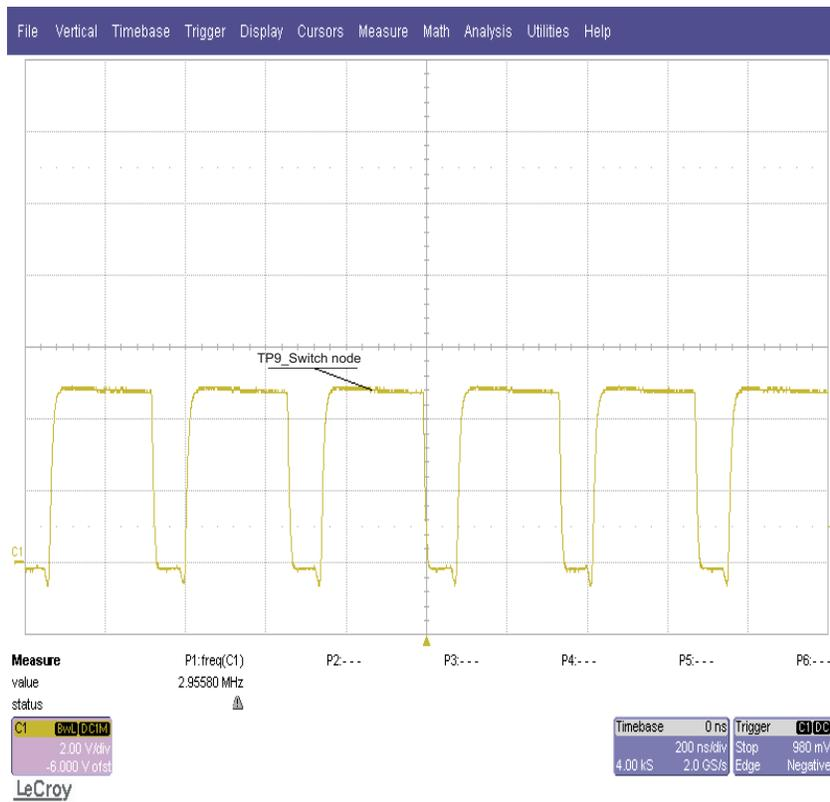

Figure 4. TP9 – Switch Node at 5-Vdc Input and 1.15-A Charge With 3.3-Vdc Battery
- Measure TP9 with ground sleeve of oscilloscope probe touching TP8 (GND). Set the oscilloscope to 200 ns/div and 2 V/div. The waveform must look like Figure 4 with the following boundaries: frequency must be 3 MHz $\pm 20\%$, the amplitude is +5 V ± 0.5 V and 0 V to -0.5 V and the duty cycle is 30 $\pm 10\%$ duty cycle.